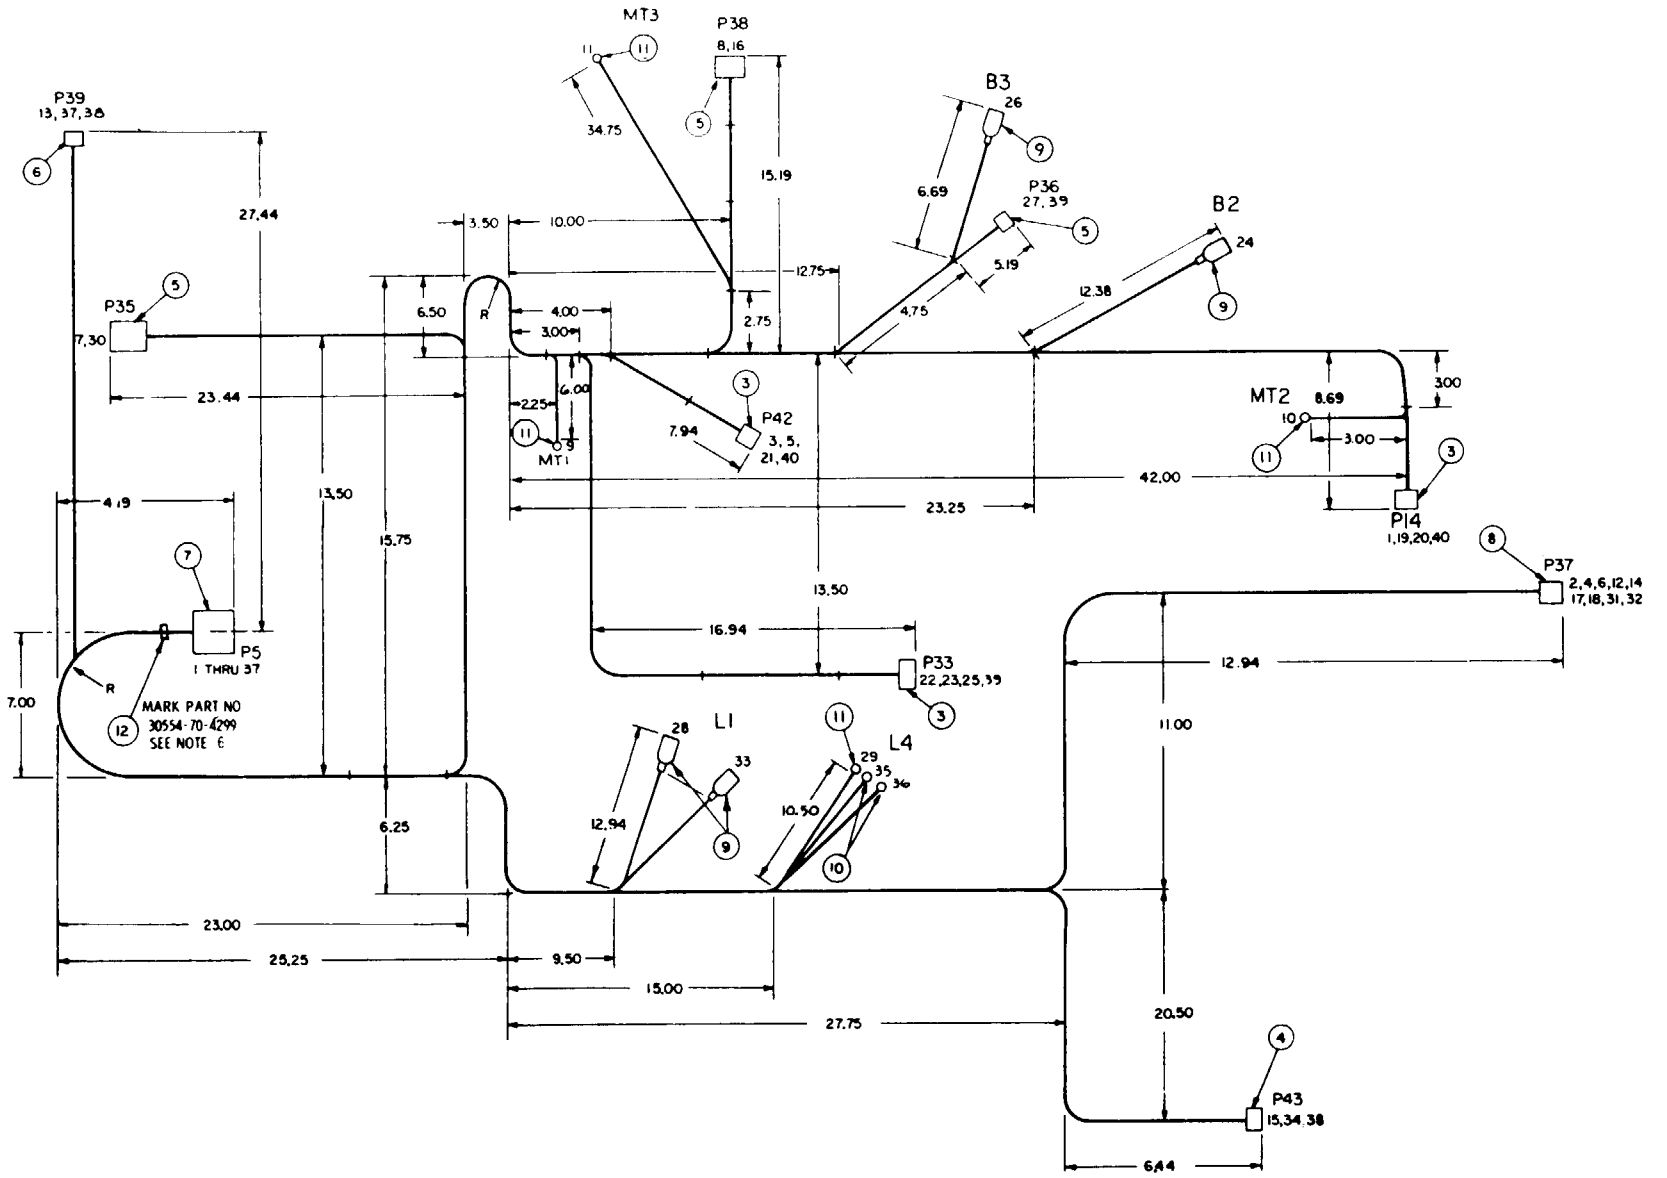

Figure 8-1. Engine wire harness (sheet 1 of 2)
d. Check each wire for continuity, refer to figure 8-1.
Refer to figure 8-1 and rebuild engine wiring harness.